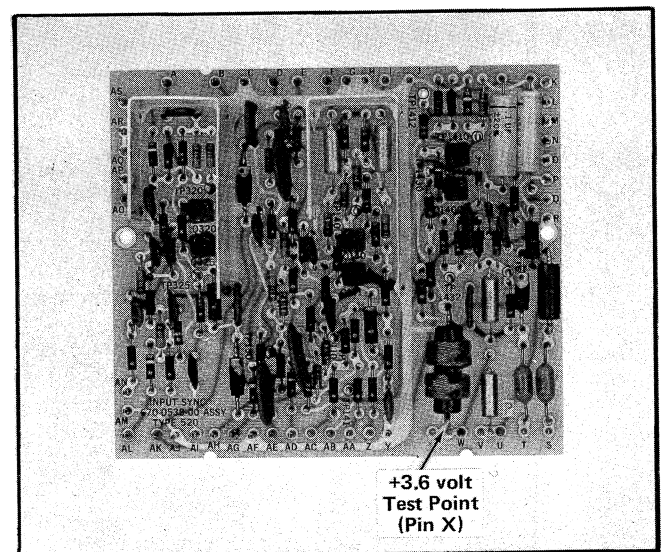

Fig. 6-3. Input sync board +3.6 V test point location.
a. Connect a DC voltmeter between ground and input sync board pin W or X; see Fig. 6-3.